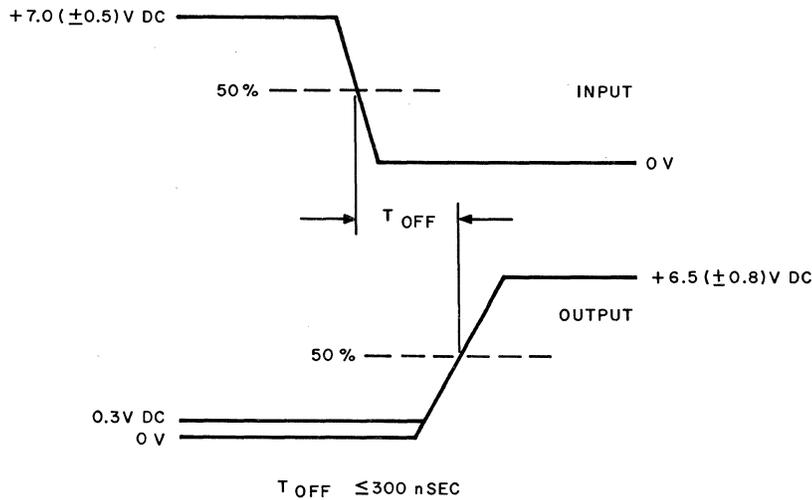

Fig. 5 — NOR Gate Test
- (1) Set the DPDT switch to position 2.
- (2) Set the EXT SYNC TRIGGER to (-) negative.
- (3) Rotate the GATE selector through positions 1 to 10. The input and output steps shall be as specified in Fig. 5 at each position.